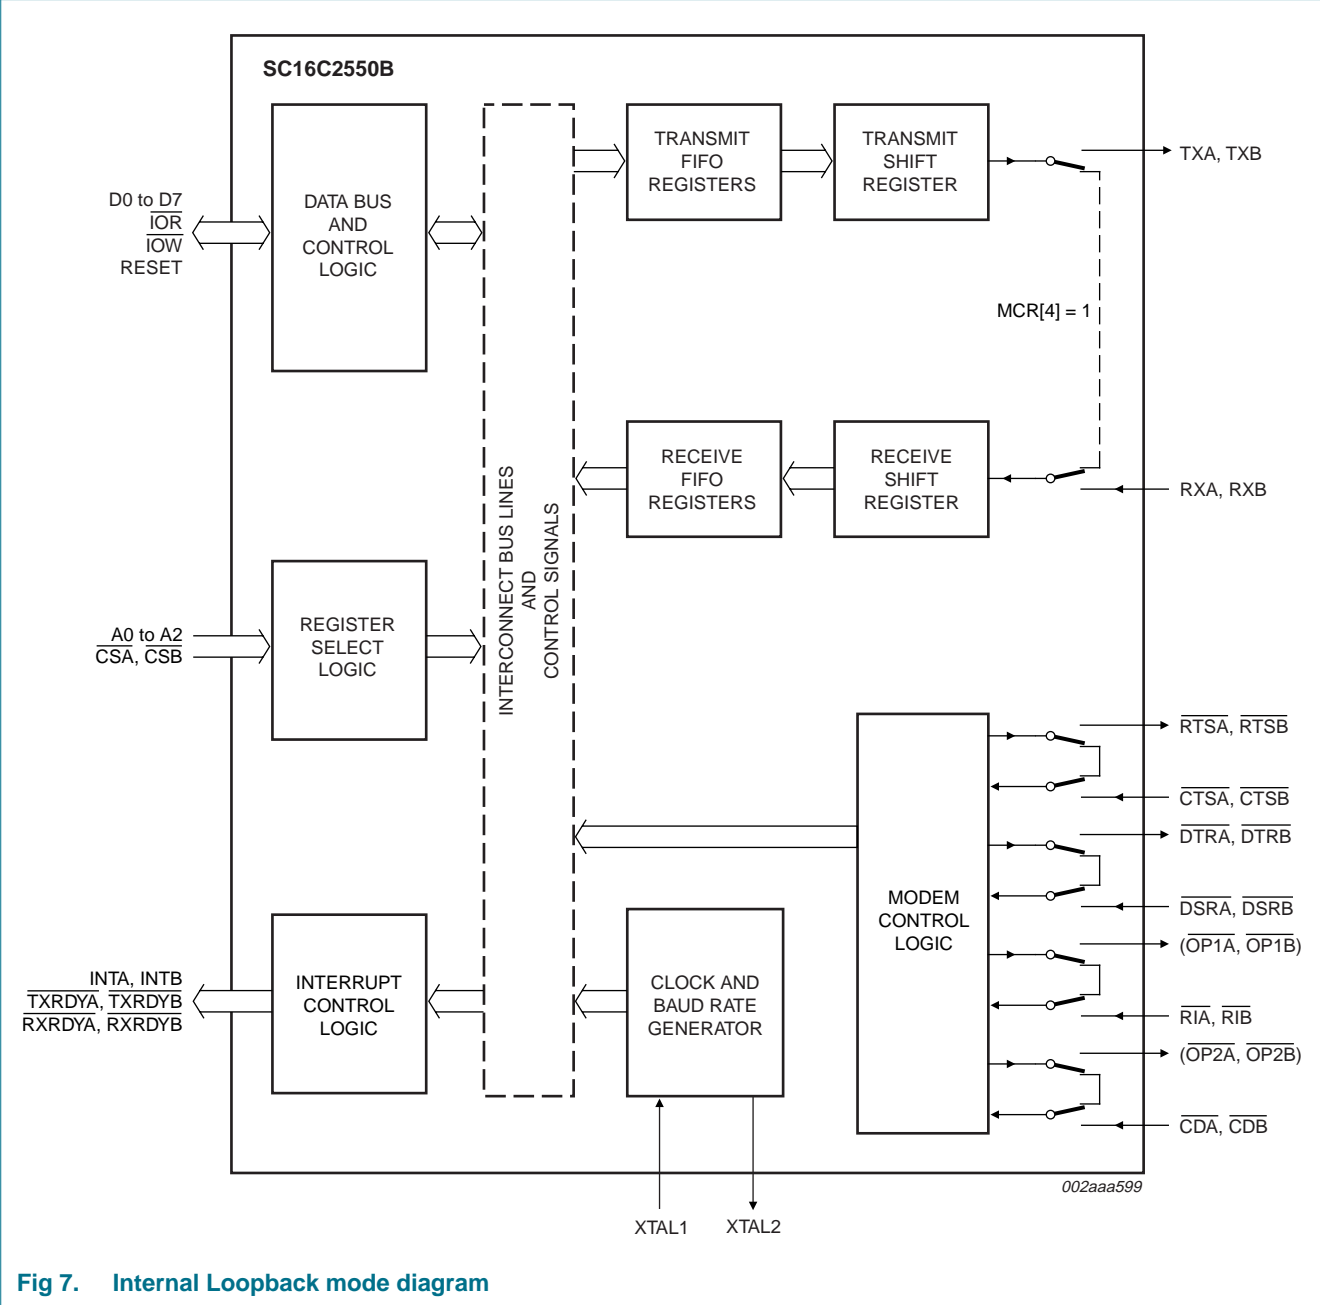

Fig 7. Internal Loopback mode diagram
The internal loopback capability allows on-board diagnostics. In the Loopback mode, the normal modem interface pins are disconnected and reconfigured for loopback internally (see Figure 7). MCR[3:0] register bits are used for controlling loopback diagnostic testing. In the Loopback mode, the transmitter output (TX) and the receiver input (RX) are disconnected from their associated interface pins and instead are connected together internally. The $\overline{\text{CTS}}$, $\overline{\text{DSR}}$, $\overline{\text{CD}}$ and $\overline{\text{RI}}$ are disconnected from their normal modem control input pins and instead are connected internally to $\overline{\text{RTS}}$, $\overline{\text{DTR}}$, MCR[3] ($\overline{\text{OP2}}$) and MCR[2] ($\overline{\text{OP1}}$). Loopback test data is entered into the transmit holding register via the user data bus interface, D0 through D7. The transmit UART serializes the data and passes the serial data to the receive UART via the internal loopback connection. The receive UART